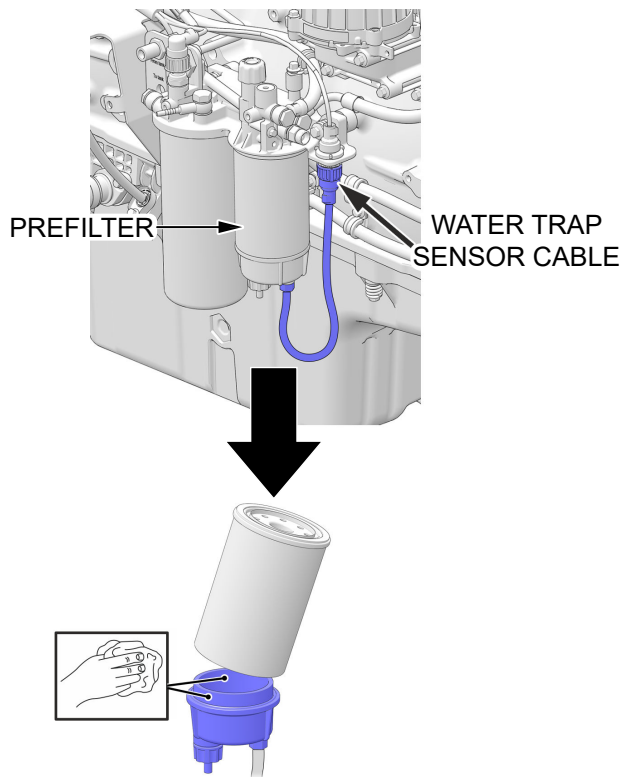

Figure 82. Fuel Prefilter Replacement
1. Remove the **cable** (Figure 82) from the **water trap sensor**.
2. Remove the **prefilter** (Figure 82) from the filter housing. Collect any spilled fuel in a suitable container.